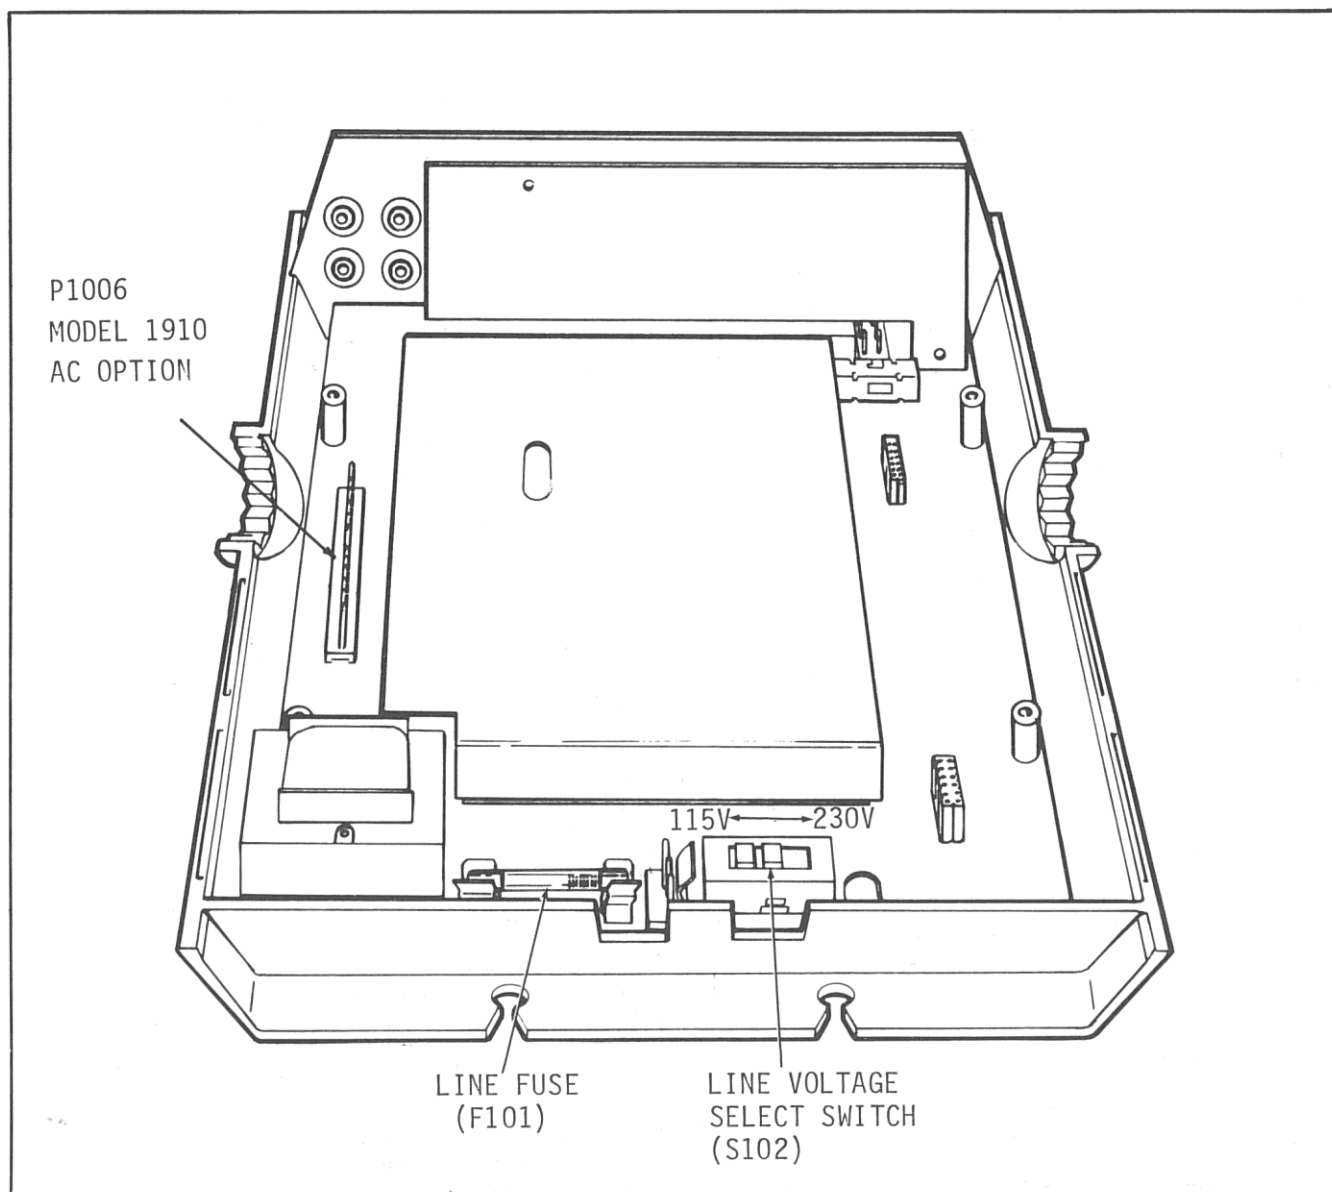

FIGURE 2-1. Location of Line Fuse and Line Voltage Select Switch.
- c. Set switch S102 and install the proper rated line fuse, as indicated in Table 2-1, for your available input line voltage. These items are shown in Figure 2-1.